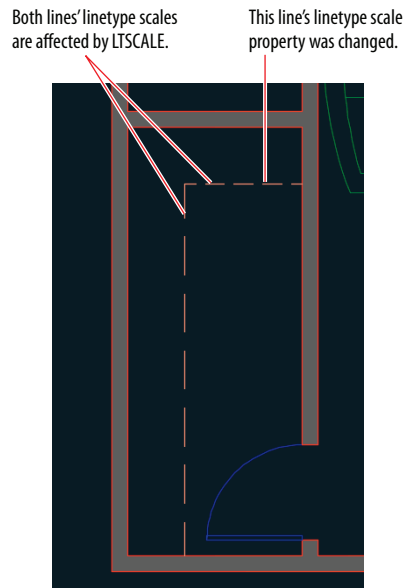

FIGURE 6.23 Scaling the linetype of an individual object
9. Press Esc to deselect the horizontal shelf line. The breaks in the horizontal line are half as large as those in the vertical segment (see Figure 6.23). Close the Properties panel.